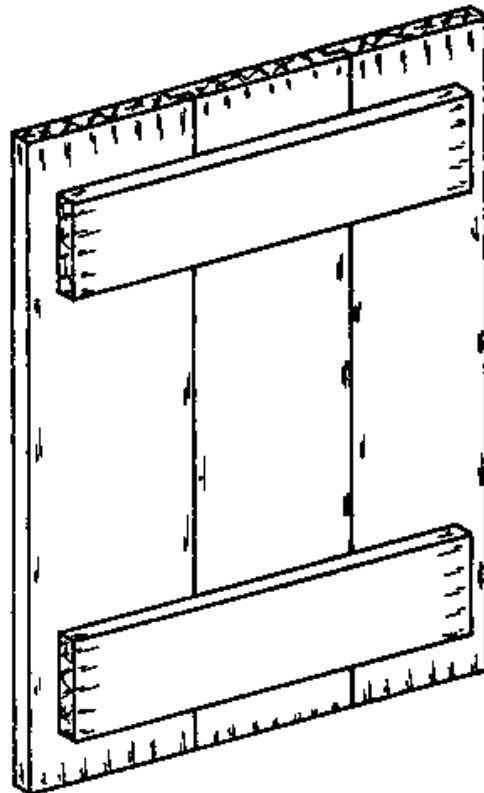

Fig. 1
- Ledged and battened casements (Fig. 1)